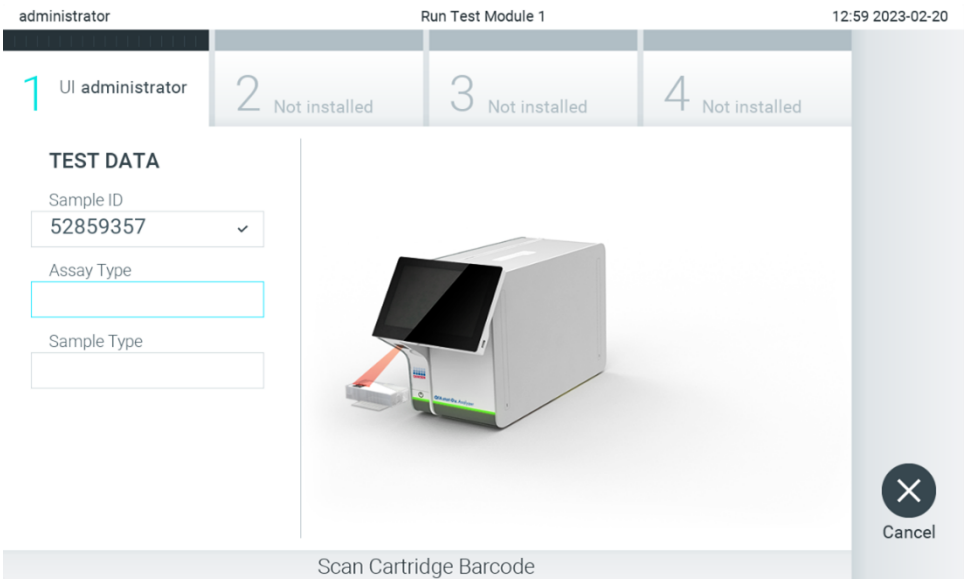

Figure 24. Scanning the QIAstat-Dx assay cartridge bar code.
3. When prompted, scan the bar code of the QIAstat-Dx assay cartridge to be used. QIAstat-Dx Analyzer 2.0 is enabled to automatically recognize the assay to be run, based on the QIAstat Dx assay cartridge bar code (Figure 24).
Note: Use the barcode on the side of the cartridge (as indicated in Figure 24) and not the barcode on the packaging of cartridges.